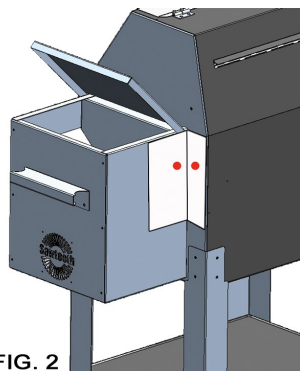

FIG. 2
- Open pellet hopper lid - see Fig. 2
- Once folded, place template in corner between pellet hopper and grill - see Fig. 2